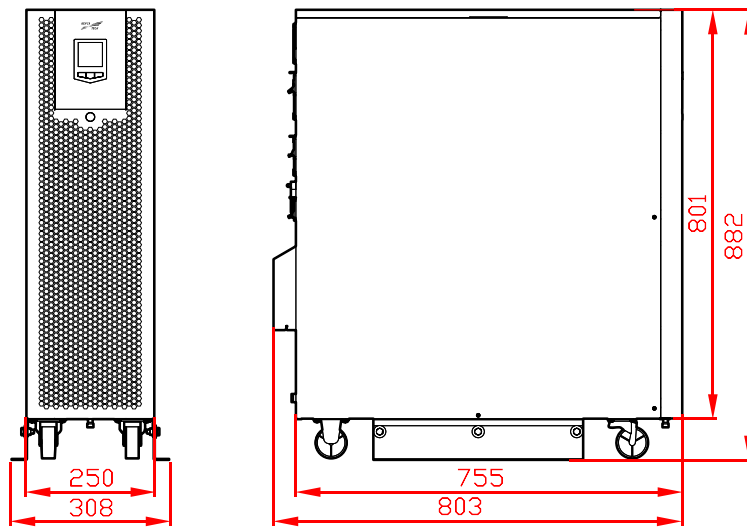
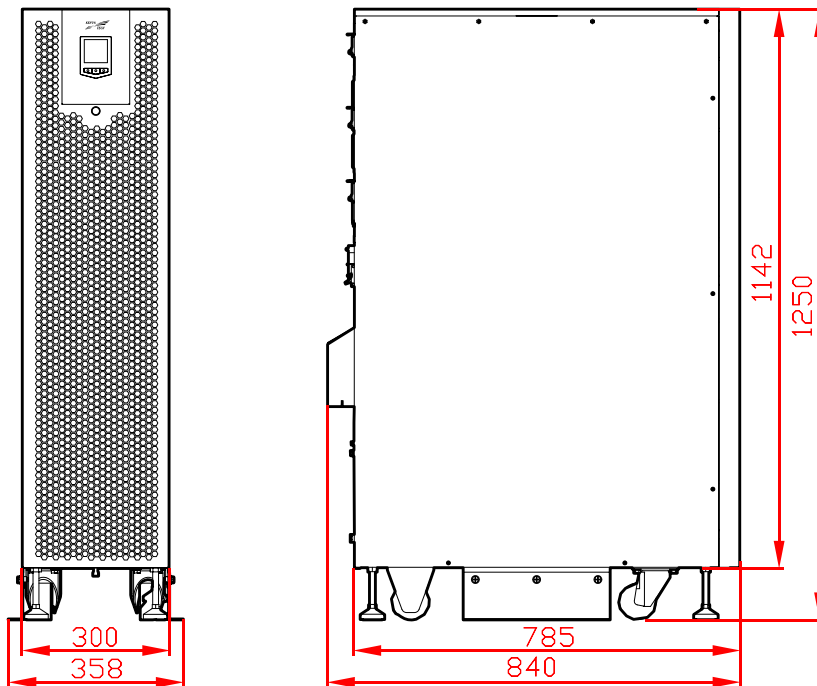

Figure3-6 Outer dimensions of UPS 10/10S/10T/15/15S/15T/20/20S/20T (unit: mm)
Figure3-7 Outer dimensions of UPS 30/30S/30T/40/40S/40T (unit: mm)
Step 1 Determine and plan the installation position according to the device size (as shown in Figure3-6, Figure3-7) and install space requirement (see 3.2.3 Install Space).